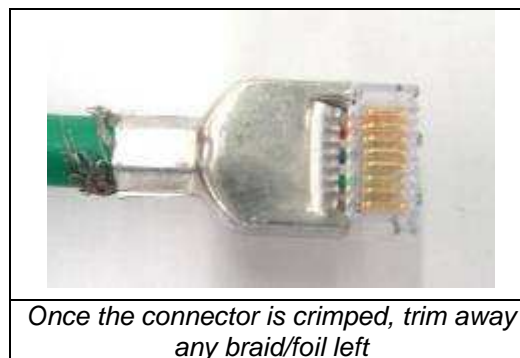

Figure 13
- Trim away any braid/foil and drain wire left extending beyond the end of the plug shield. See Figure 13.